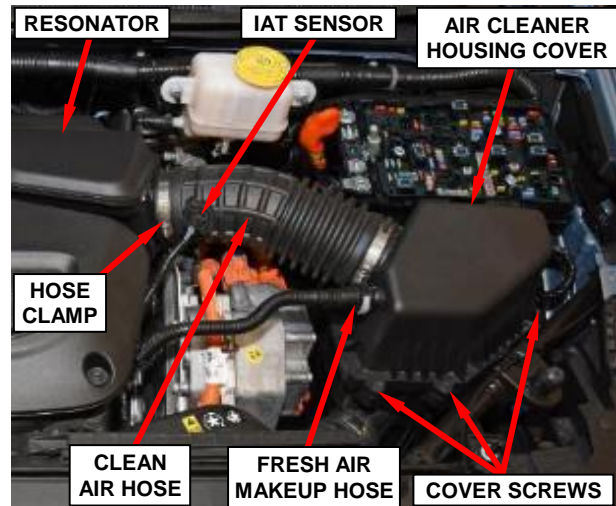

Figure 10 – Air Cleaner Assembly
14. Disconnect the fresh air makeup hose from the air cleaner body (Figure 10).
15. Disconnect the wire harness connector from the Inlet Air Temperature (IAT) sensor (Figure 10).
16. Loosen the clean air hose clamp and disengage the clean air hose from the resonator (Figure 10).
17. Loosen the cover screws and remove the air cleaner housing cover (Figure 10).